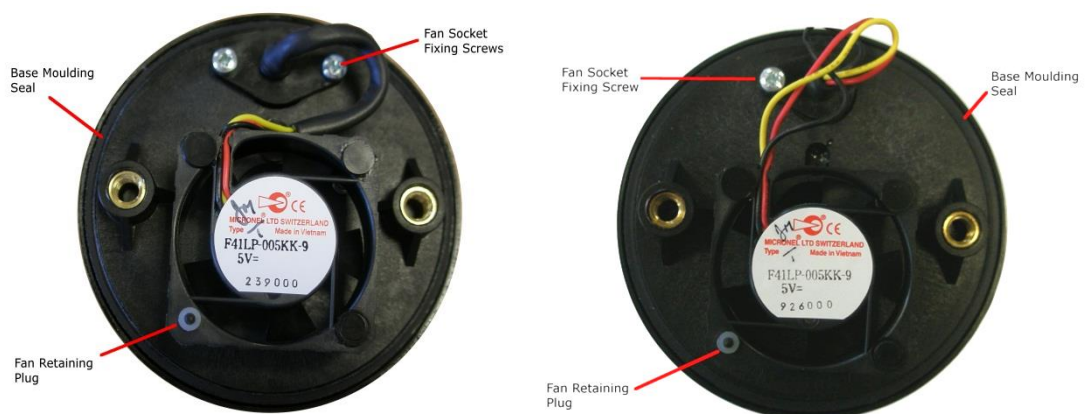

Figure 123 Base Moulding Seal
4. Remove and invert the top part of the Detector head. Examine the base moulding seal and replace if damaged or perished (refer to Figure 123).